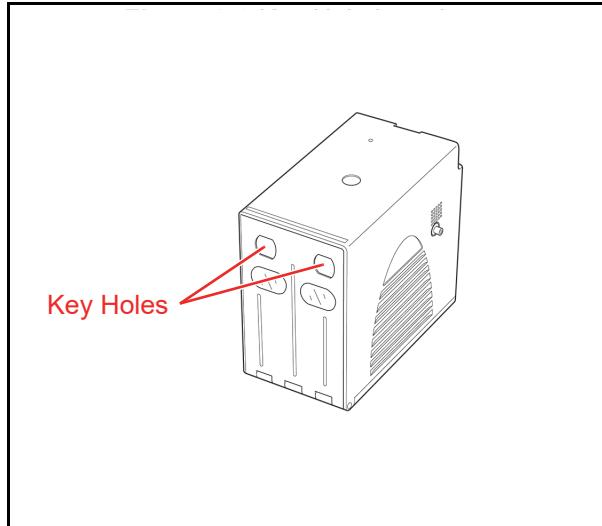

**Figure 2-5 External Harness Installation**
1. Plug the Power Cable (Figure 2-5 a) and the Interface Harness (Figure 2-5 b) into each Connector.
2. Secure the Connector (Figure 2-5 c) using two (2) specified Screws (Figure 2-5 d1 & d2).